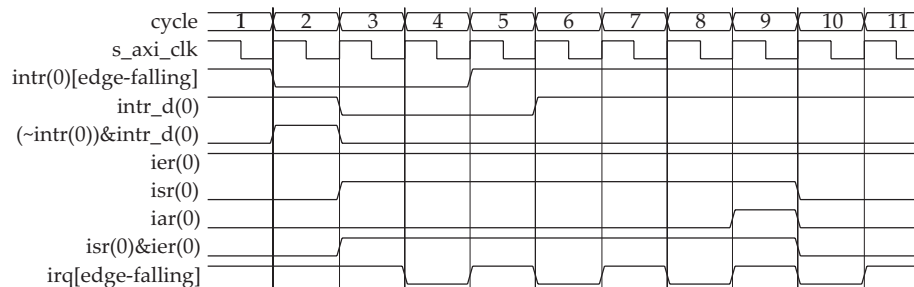

Figure 24: Input Intr - Edge Sensitive (Falling) and Output Irq - Edge Sensitive (Falling)
- Configured Input Interrupt (Intr) for Edge sensitive (falling) and Output Interrupt Request (Irq) to Edge sensitive (falling) and is shown in Figure 24.